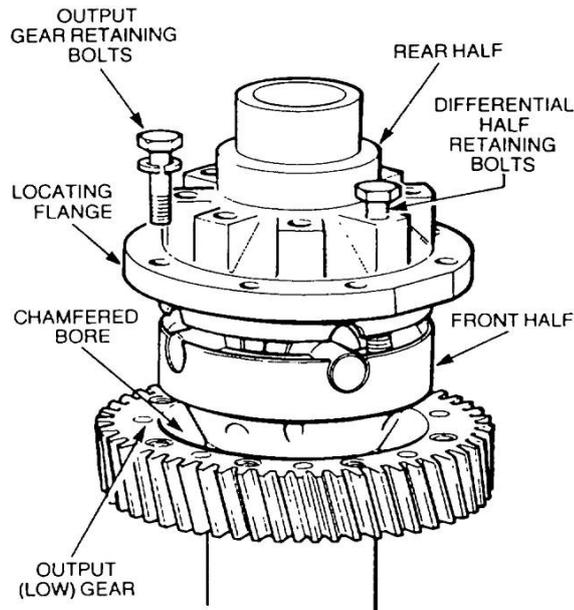

Figure 73 Removal of the Output (Low) Gear
- r. Remove the eight bolts and lock-washers retaining the output (low) gear to the differential (Figure 73) and remove the gear. Discard the lock-washers.
- s. Support the differential assembly in the vertical position with the rear half uppermost (Figure 73) and remove the eight bolts and lock-washers retaining the two differential halves together. Discard the lock-washers and lift off the rear half.
- c. Install the output (low) gear over the front half of the differential ensuring that the chamfered bore and countersunk ends of the tapped hole are towards the locating flange (Figure 73). Align the boltholes and apply Loctite 241 to the threads of the bolts. Install the bolts and lock-washers and tighten in sequence to a torque of 60 to 64 N.m (44 to 47 lbf.ft).